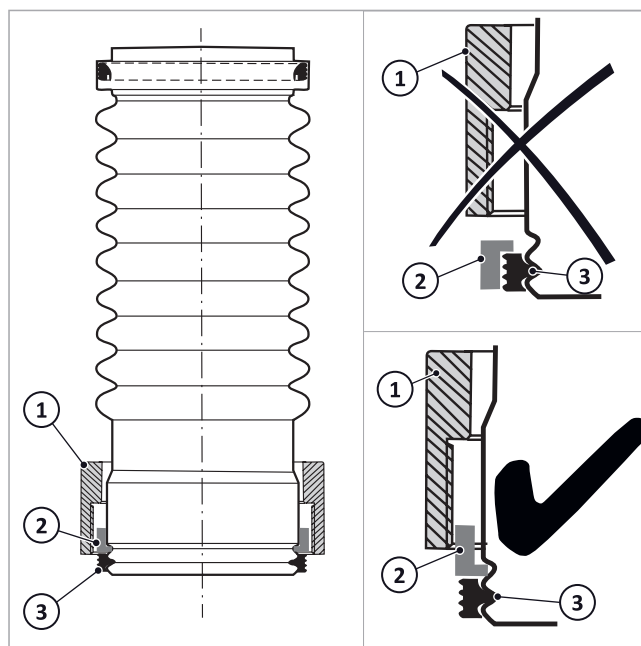

Fig. 37: Union attached
- As shown in → fig. 37, slide the union nut (1), the snap ring (2) and the seal (3) onto the lower pipe end of the exhaust connection piece.